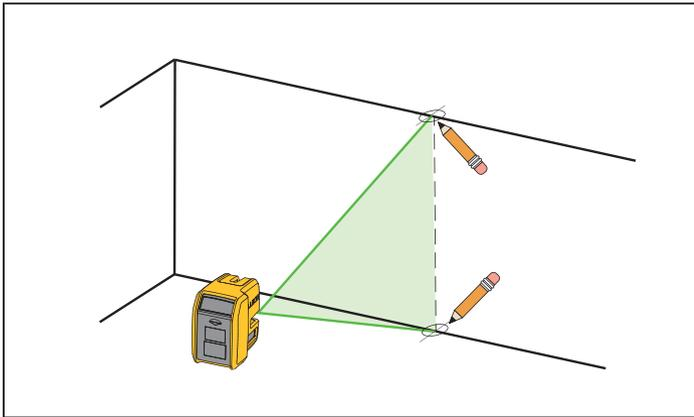

Figure 3. New Vertical Mark
1. Put the Product facing the target and turn on the vertical laser. See Figure 3.